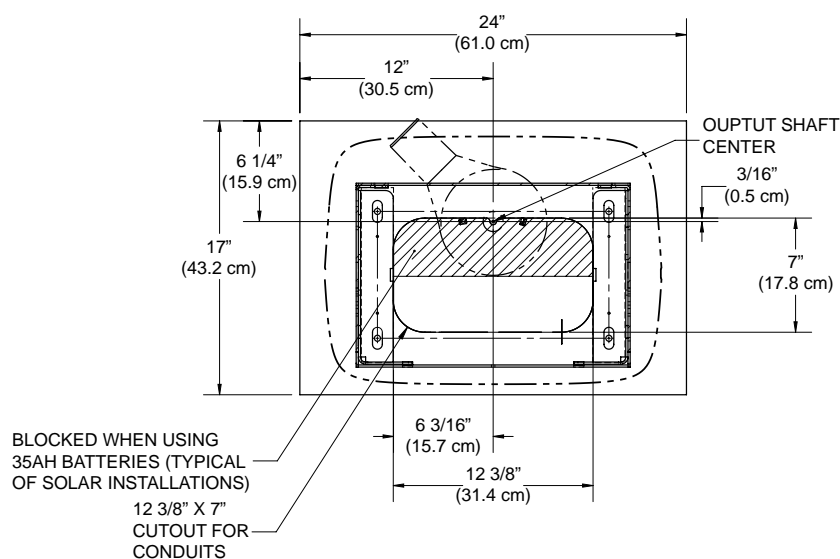
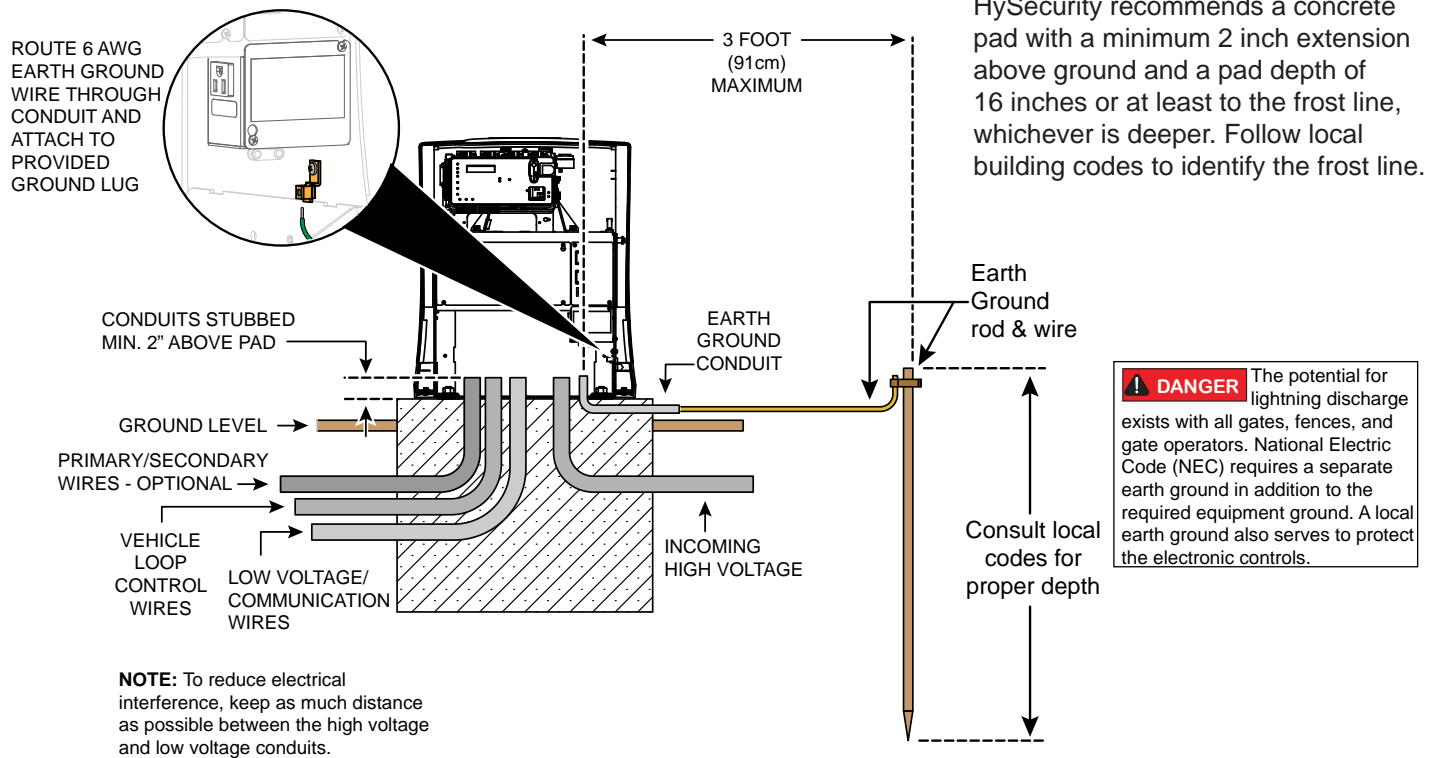

Figure 4. Concrete Pad and Conduit Area Dimensions
Figure 6. Conduits and Earth Ground
5. Refer to Figure 4 for minimum dimensions for a new concrete pad. Refer to Figure 6 for conduit and earth ground requirements.